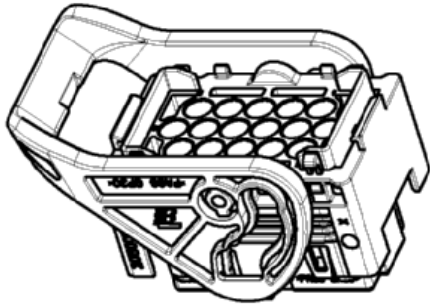

Figure 1
The 16pos plug body includes lever (1), base housing (2), inner seal (3) and secondary locker (4) and front housing (5). See Figure 1, Figure 2.
参看图 1，图 2。